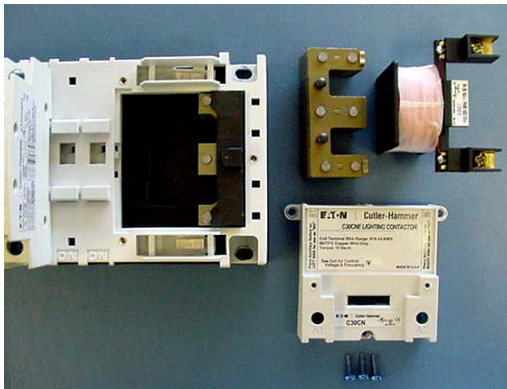

Figure 7
1. Disconnect all power. Replace and mount the coil on the contactor as shown in Figure 7.